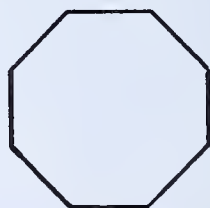

FIG. 251 — *Regular Octagon*
**REGULAR OCTAGON** — Fig. 251. An eight-sided figure with equal sides and equal angles.